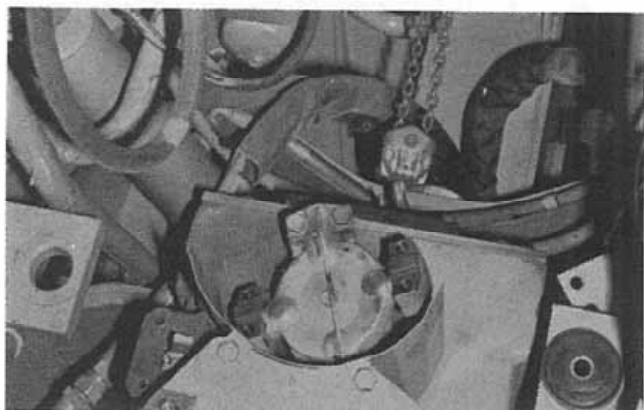

Figure 6:
6. Carefully raise the transfer case (Fig. 6), while ensuring alignment and proper relation of the unit with mounting brackets of the frame. To avoid damage, lift in steps and check for interference of lines, hoses and cables while lifting.